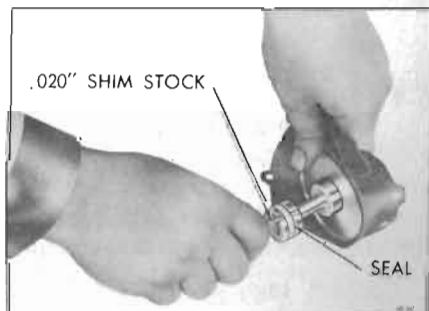

Figure 40-36—Installing Piston Seal
4. Install new seals using a piece of .020" shim stock. See Figure 40-36.